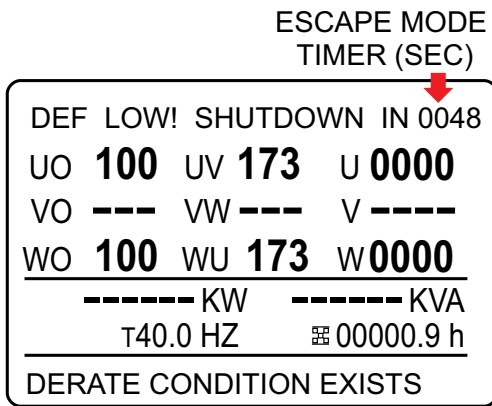

Figure 86. Escape Mode Timer
10. The **Escape Mode Timer** (Figure 86) will appear on the **main** screen. This timer displays remaining time the unit can be operated.